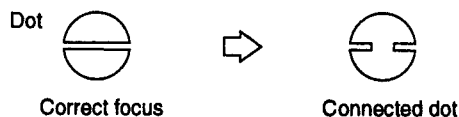

Fig. 3-32
5. Turn the H focus VR counterclockwise so that the dot will be as shown in Fig.3-32. At that time, both ends of the central section of the screen are in the same state.